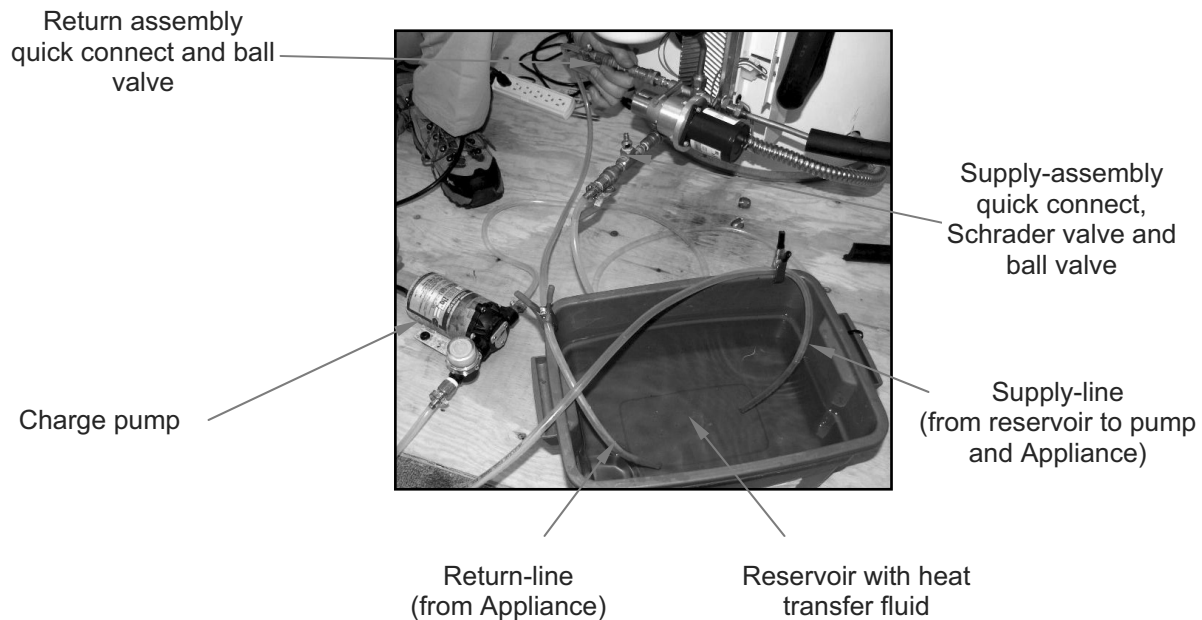

Fig.5.3.1 – Charging Kit and fluid reservoir
2. Ensure pump suction hose is in heat transfer fluid reservoir, below fluid surface. Sufficient fluid must be in reservoir to maintain fluid level above inlet such that air does not enter Appliance (Fig.5.3.1).